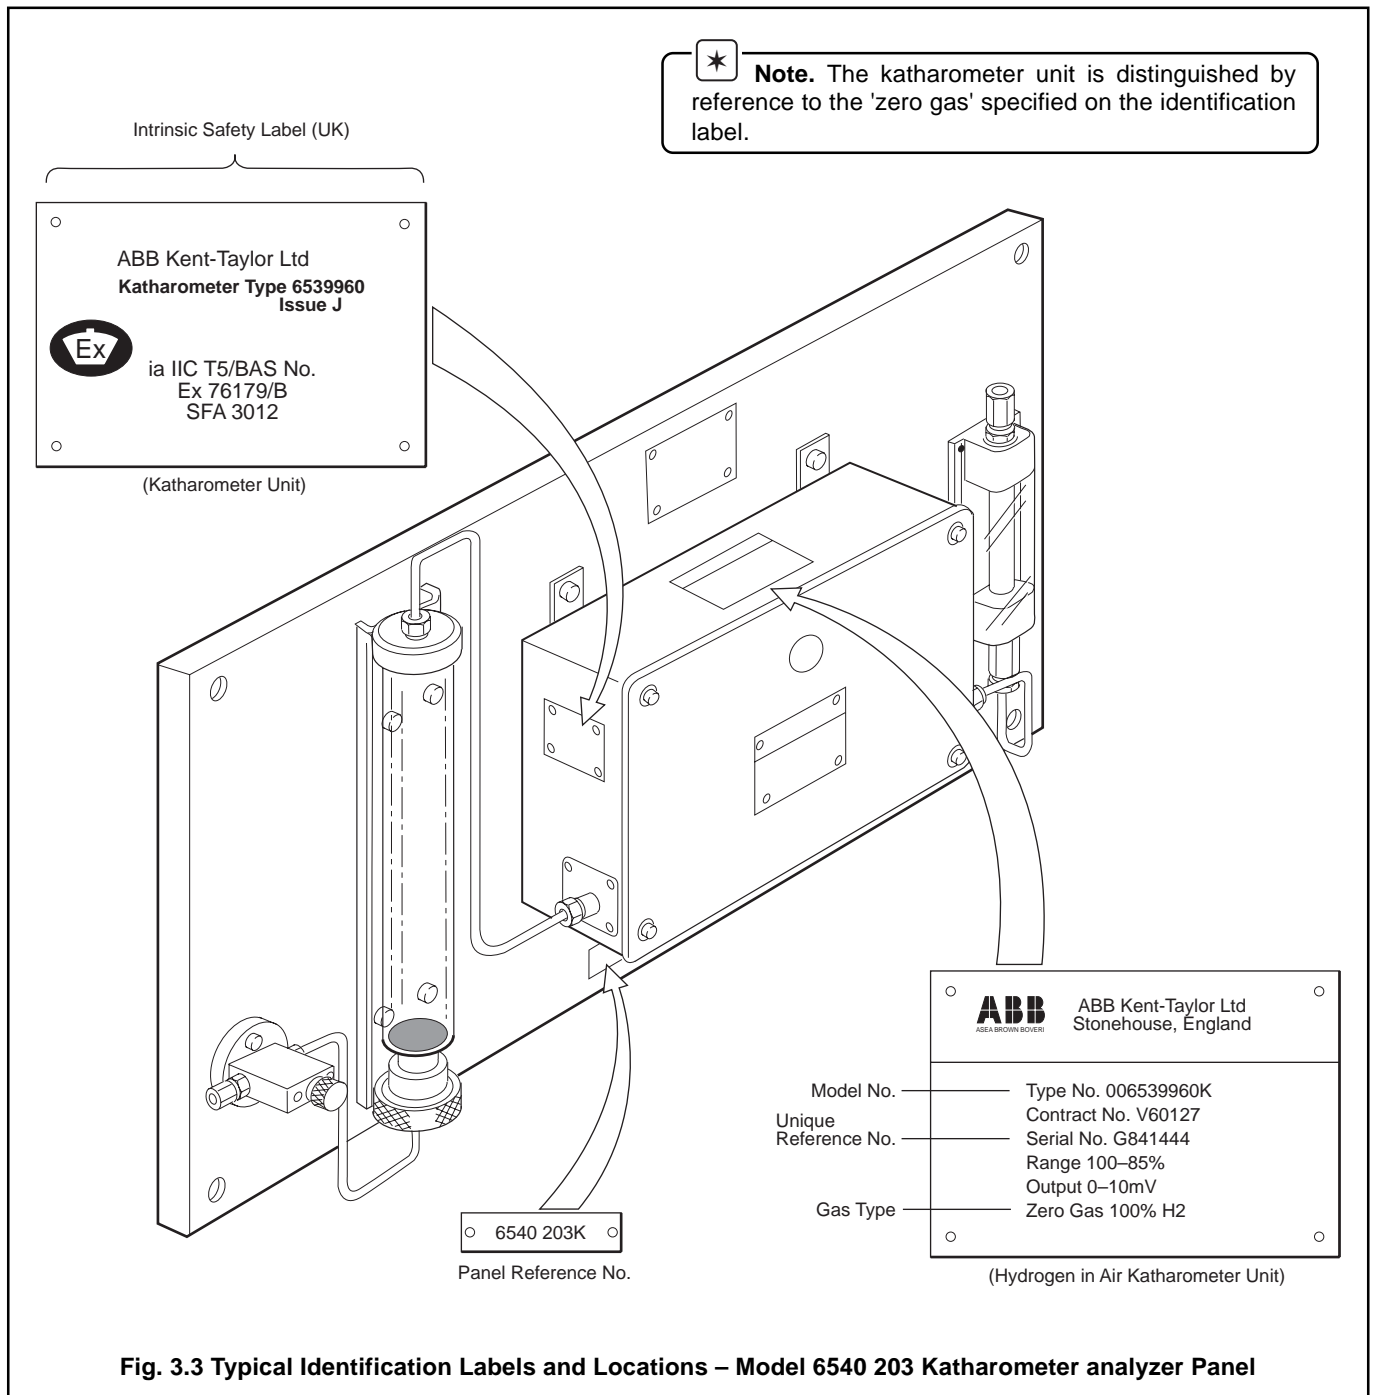

Fig. 3.3 Typical Identification Labels and Locations – Model 6540 203 Katharometer analyzer Panel
3.1.3 Model 6540 203 Katharometer Analyzer Panel – Fig. 3.3